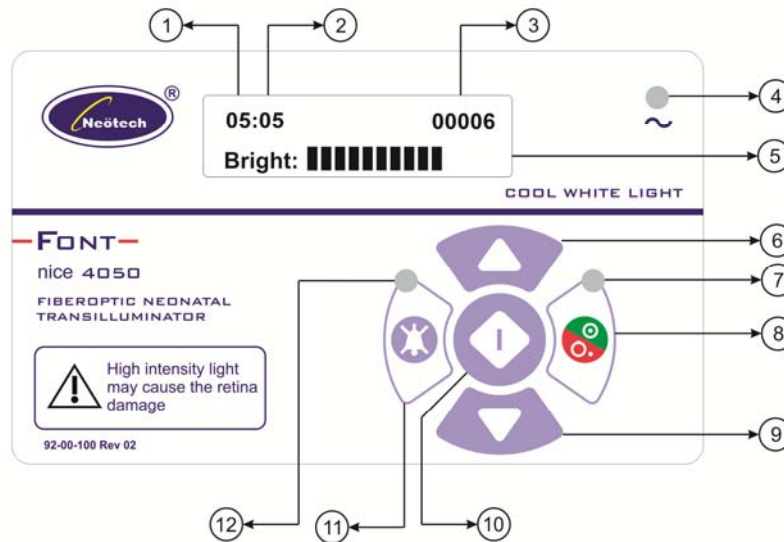

Figure 1
3.1 Control Panel Operation (See Figure 1)